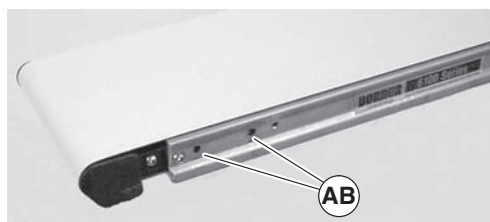

Figure 13
6. On side opposite drive output shaft, remove two screws (Figure 13, item AB).